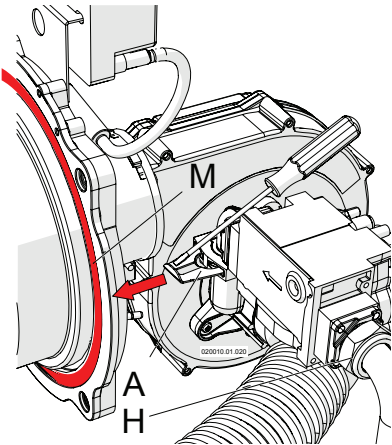
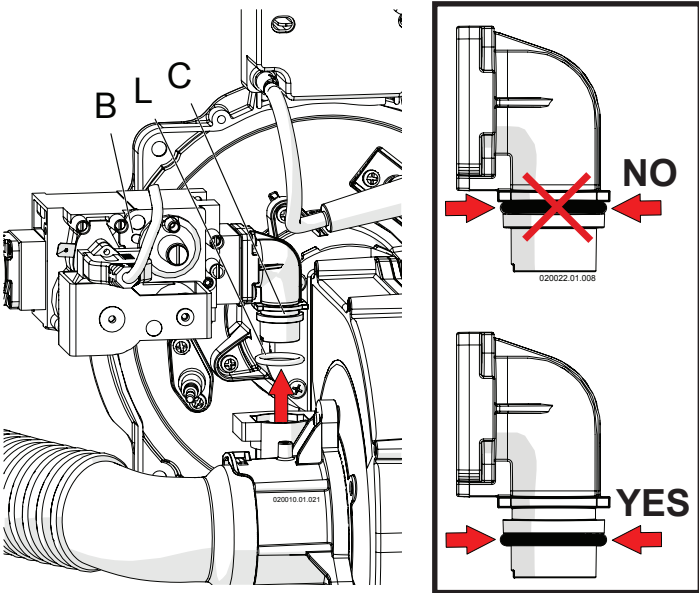

Figure 15-2 - Gas valve disassembly
Figure 15-3 - Gas valve lifting
- 4 - Unscrew fitting "H" in figure 15-2;
- 5 - With the help of a screwdriver, remove fork "A" in figure 15-2;
- 6 - Remove the gas valve with fitting "C" as in figure 15-3 (being careful of OR "L" in figure 15-3);
- 8 - Reinstall the gas valve, taking care to correctly position OR "L" in figure 15-3 and the gasket of fitting "H" in figure 15-2;
- 10 - Screw on fitting "H" in figure 15-2;
- 12 - Make sure there are no leaks from fitting "H" in figure 15-2;